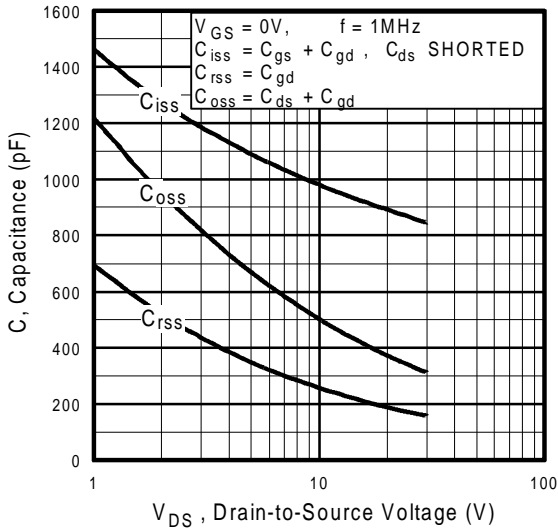

Fig 5. Typical Capacitance Vs. Drain-to-Source Voltage
| C_{RSS} | Reverse Transfer Capacitance | — | 170 | — | | $f = 1.0\text{MHz}$, See Fig. 5 ⑦ |